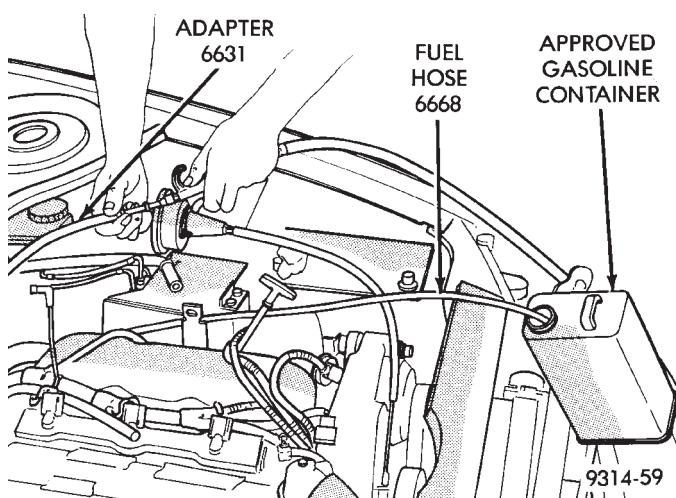

Fig. 40 Purging Fuel From Rail
(1) Release fuel system pressure. Refer to Fuel System Pressure Release Procedure in this section.
(2) Remove intake manifold plenum. Refer to Group 11, Exhaust System and Intake Manifold for intake removal/installation for the 3.5L Engine.
(3) Using tool 6751, disconnect the fuel supply and return tubes from the fuel rail. Refer to Metal Quick-Connect Fittings in the Fuel Delivery section of this group. Connect fuel gauge adapter 6631 to the fuel supply tube end of the rail. Connect fuel hose 6668 to the fuel return tube end of the rail.
(4) Place the other end of fuel hose 6668 into an approved gasoline container.
(5) To purge fuel from rail, spray a maximum of 379 kPa (55 psi) of compressed air into the end of adapter 6631 (Fig. 40).